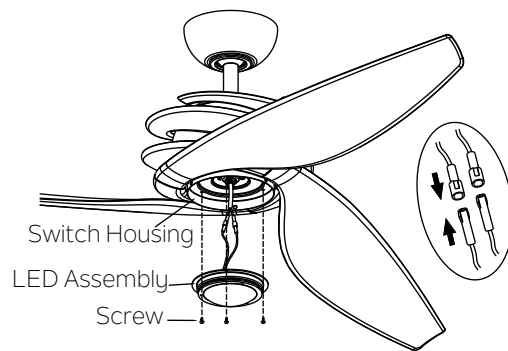

Fig. 19
**Step 2.** Connect the 2 single pin connectors from the LED assembly to the 2 single pin connectors from motor body, BLACK to BLACK, WHITE to WHITE. Assemble the LED assembly to the switch housing and tighten them by the three screws removed previously. (Fig. 19)